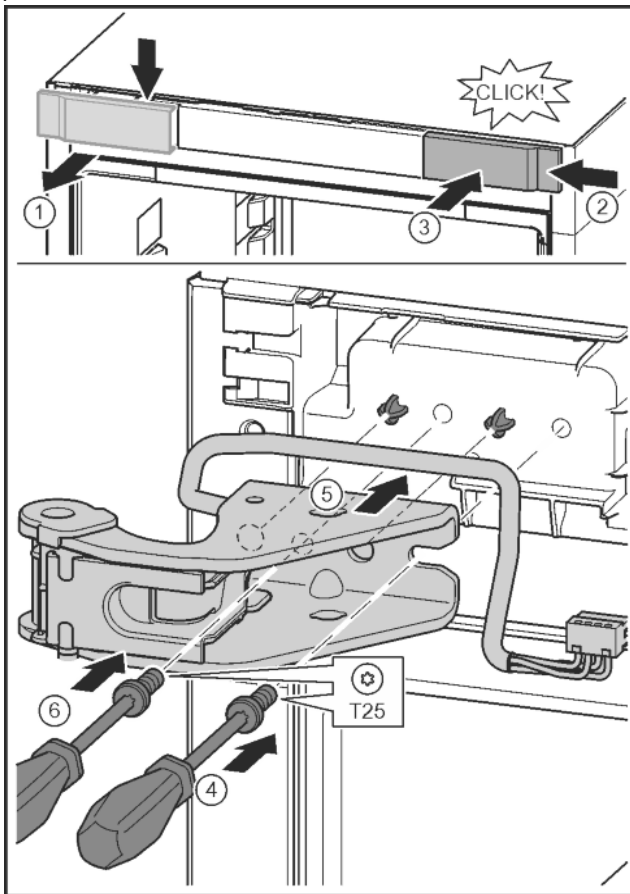

Fig. 28
- ▶ Release the cover and remove from the side. Fig. 28 (1)
- ▶ Rotate the cover 180° and clip onto the other side from the right. Fig. 28 (2)
- ▶ Click the cover into place. Fig. 28 (3)
- ▶ Position the screw with a T25 screwdriver. Fig. 28 (4)
- ▶ Position the upper bearing bracket. Fig. 28 (5)
- ▶ Tighten the screw. Fig. 28 (4)
- ▶ Insert the screw with a T25 screwdriver and tighten. Fig. 28 (6)